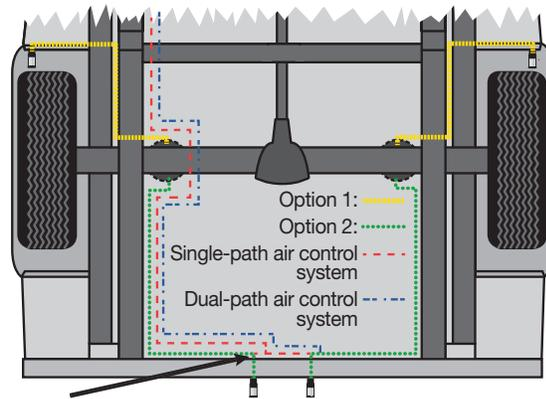

fig. 7
1. Choose a convenient location for mounting the inflation valves (Fig. 7). Popular locations for the inflation valve are: